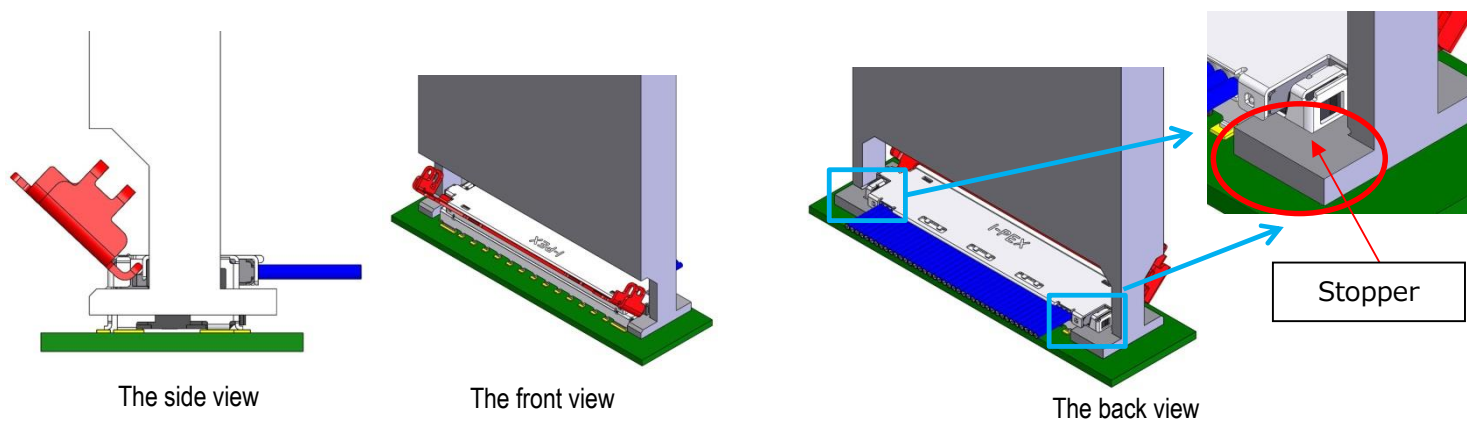

Fig.17
- ④ The jig shall be moved until it reach a stopper just as it hold the cable connector .(see Fig.17)